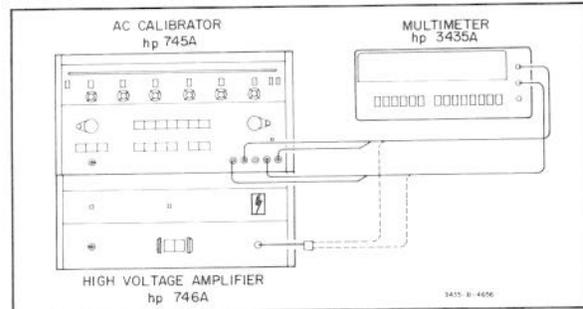

Figure 5-1. AC Voltage Accuracy Test.
- b. Connect the AC Calibrator as shown in Figure 5-1.